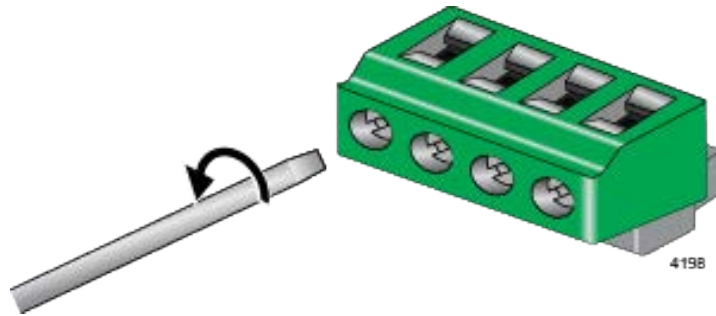

Figure 58. Loosening the Wire Retaining Screws on the PWR 1 - PWR 2 Cable Connector
- Loosen the wire retaining screws in the connector with a #1 screwdriver. Refer to Figure 58.